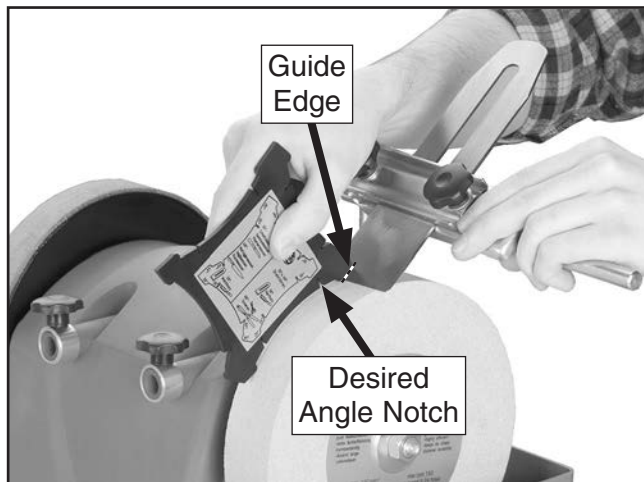

Figure 18. Example of using angle guide to adjust tool angle.
1. Determine angle notch (see **Figure 18**) that best fits the tool you wish to grind by placing beveled edge of tool into notches.
2. Place desired angle notch against grinding wheel so angle guide edge creates guide for positioning tool (see **Figure 18**).
3. Place tool tip between guide edge and wheel, and adjust positioning of tool jig and tool rest so sharpened edge of tool is flat against both grinding wheel and guide edge (see **Figure 18**).